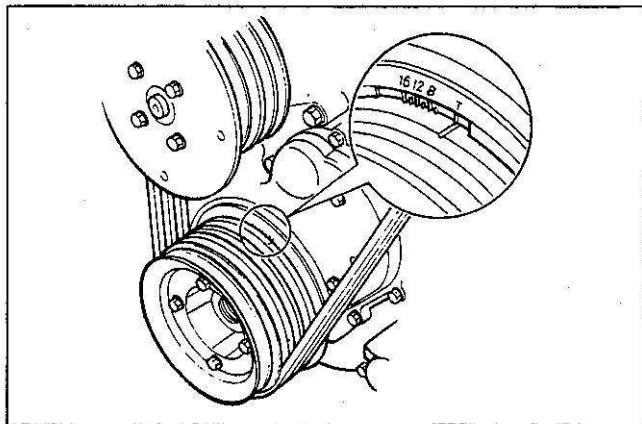
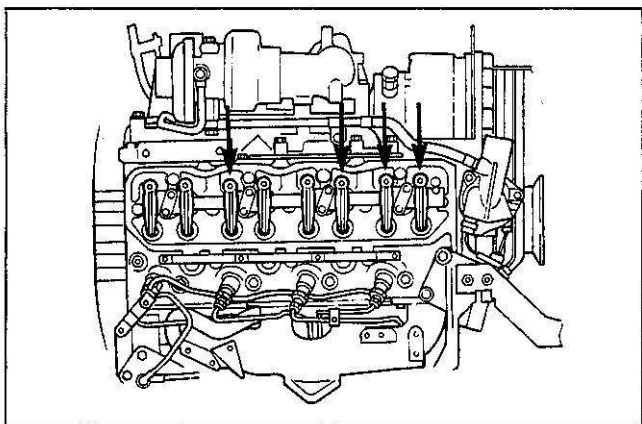
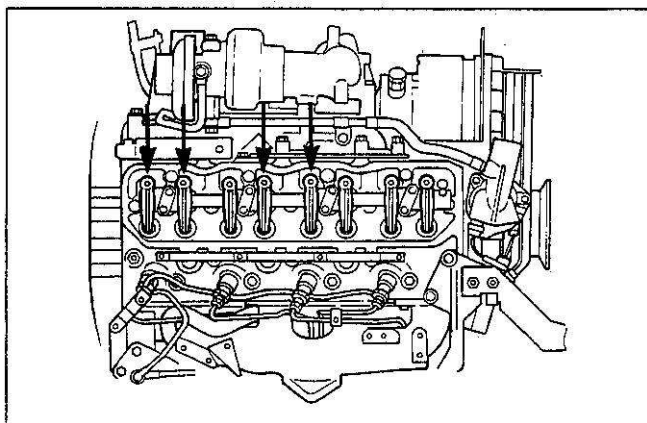

Figure 3. Timing Mark at Top Dead Center
Figure 4. Valve Adjustment-Sequence (1)
Figure 6. Valve Adjustment-Sequence (2)
- damper is aligned with the "T" mark (figure 3).
4. With the crankshaft in this position, the valves indicated in figure 4 can be adjusted. If the timing marks are aligned at "T" mark and the number one cylinder valves have no clearance, then the number four cylinder is in the compression-firing position. Adjust the valves as shown in figure 6.
- 6. Turn the crankshaft one full turn in the direction of normal rotation. Align the "T" mark with the timing notch (figure 3). With the crankshaft in this position, the valves indicated in figure 6 can be adjusted. Adjust as outlined in step 5.